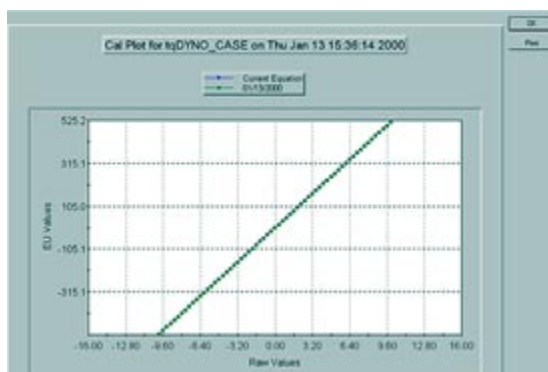

Figure 8
- 146 The “Cal Plot for tqDYNO_CASE” appears. See Figure 8. Verify that the plot forms a straight line.